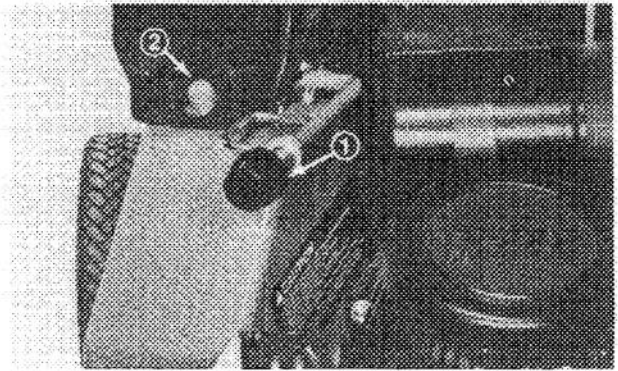

Figure 2
1. Assure chute door handle is fully forward and locked in place (Fig. 2).
2. Slide guide hole in bag door onto locating stud on mower housing (Fig. 2); then set rear of bag frame onto support rod.